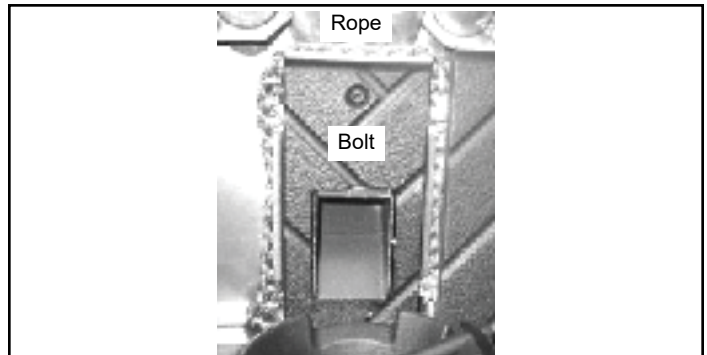

Figure 24.6
4. Add new center brick and taking care not to cross thread the bolt; reinstall brick (**Figure 24.6**).